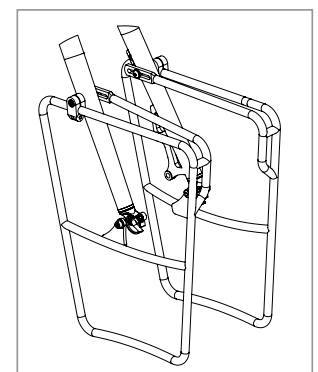

Figure 6
7. Repeat steps 1–6 for the non-driveside (fig 6).